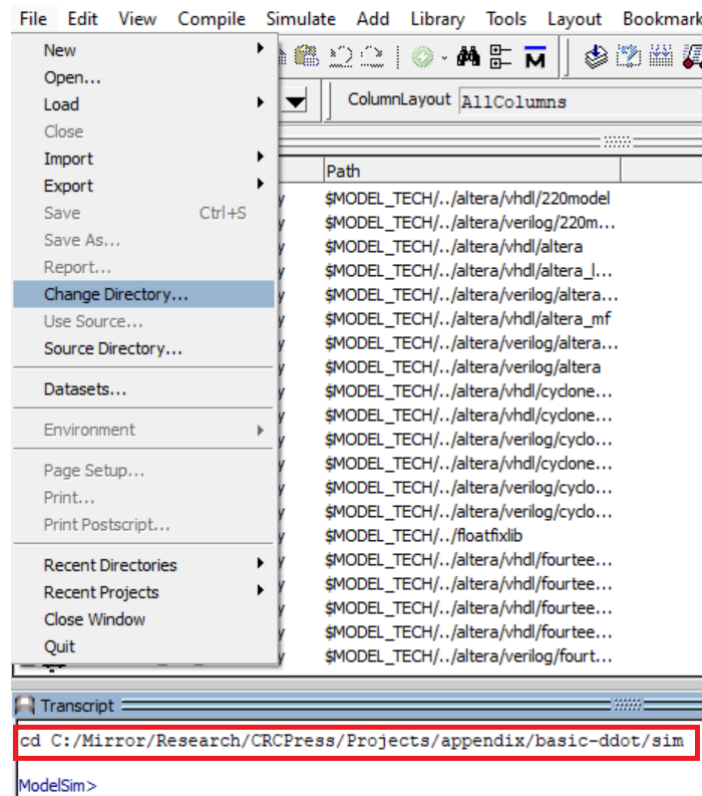

FIGURE 15.1
1. Click on File and select Change Directory, as shown in Fig. 15.1.